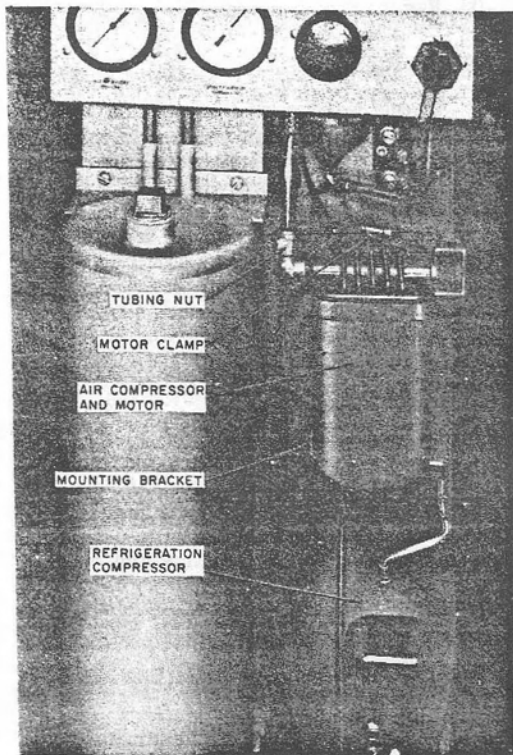

Fig. 6—Interior of B Air Dryer Cabinet Showing Arrangement of Air Compressor and Refrigeration Compressor
2.21 Repaint the refrigeration suction and charging tubing with one coat of No. 634 Glossy Black or No. 412 Flat Black Rust Oleum as shown in Fig. 6, 7, and 8.
- (1) Disconnect the tubing nut from the air compressor fitting (see Fig. 6).
- (2) Loosen motor clamp and slide compressor and motor forward and off its mounting bracket (see Fig. 6).